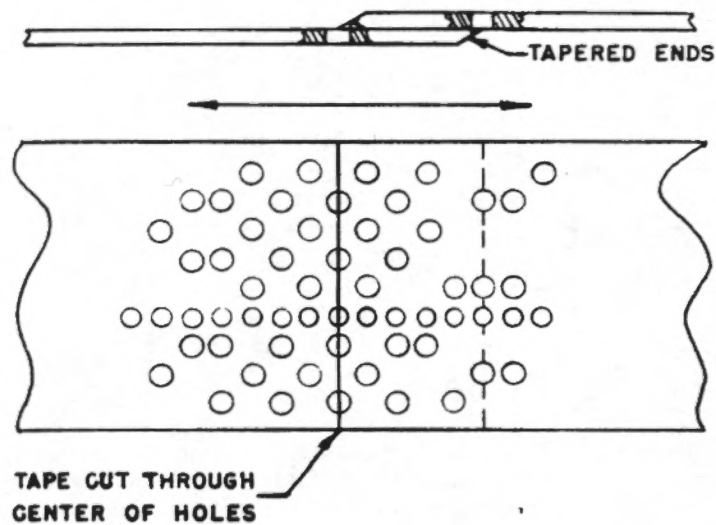

Figure 18. Bi-directional Tape Splice
a. The tape should be cut straight across through the center of the sprocket hole as shown in Figure 18. This permits the star wheel to slide into the perforation properly, or if no perforation exists, the star wheel will roll over the splice and yet be in position to read a character on the next step. Allow approximately 1/2 inch for splice overlap.